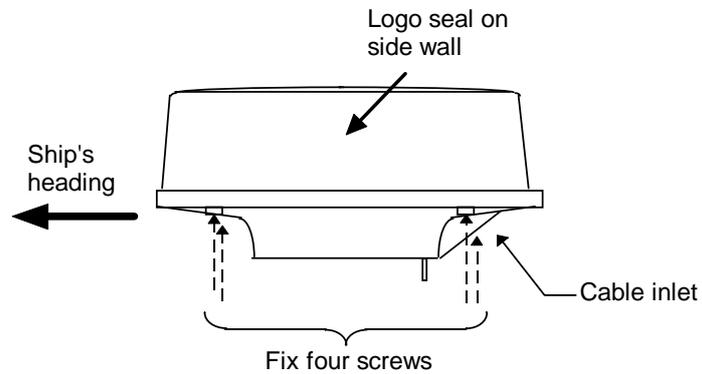

Fig.3-7-2 Fitting cover (MDC-741)
- 7) Replace the upper part of the radome, taking care not to bump it against the antenna. Make sure that the cover is positioned in the correct direction as shown in Fig.3-7-2. The upper and lower parts of the radome each have four alignment markings indicating screw positions.